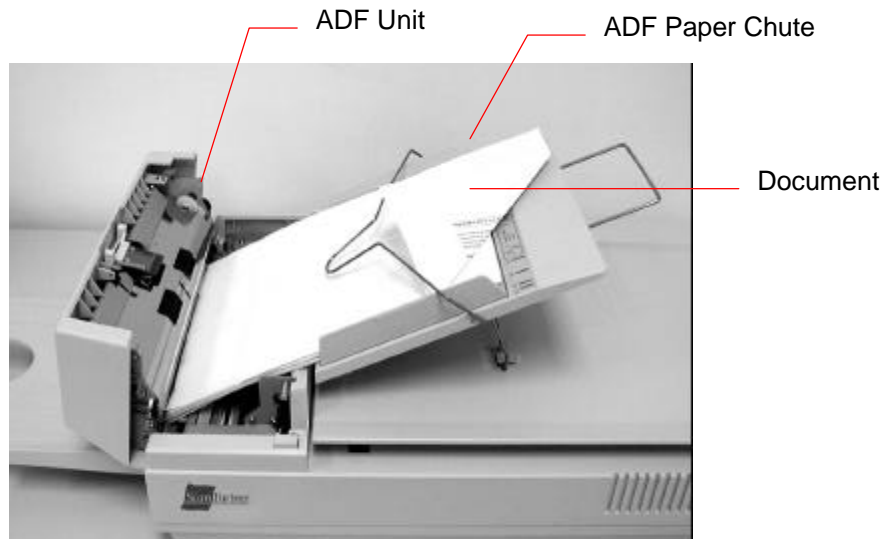

Figure 4-2 ADF Paper Jam - Removing the Paper
- ii). Open the ADF cover to the full open position as shown in Figure 4-2..